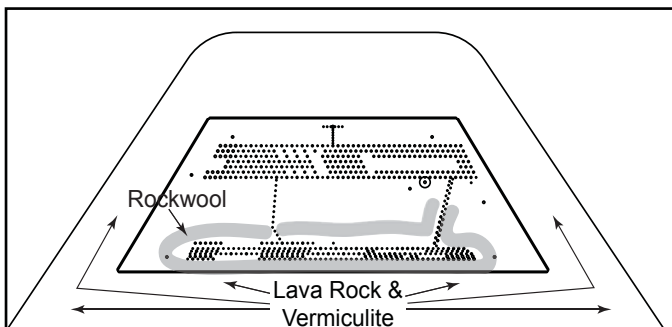

Figure 11.6 Placement of Rockwool, Lava Rock and Vermiculite
- Place a small amount of 1/2 in. diameter pieces (dime-size) rockwool on the burner pan so that the rockwool touches, but does not cover, the holes in the burner pan (refer to Figure 11.6). This will provide the “glowing embers” look.
See Figure 11.6.